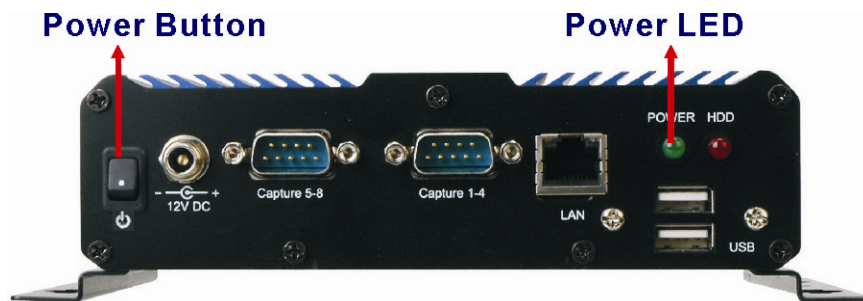

Figure 4-7: Power Button and Power LED
Step 2: Once turned on, the green power LED should be turned on. See **Figure 4-7**.